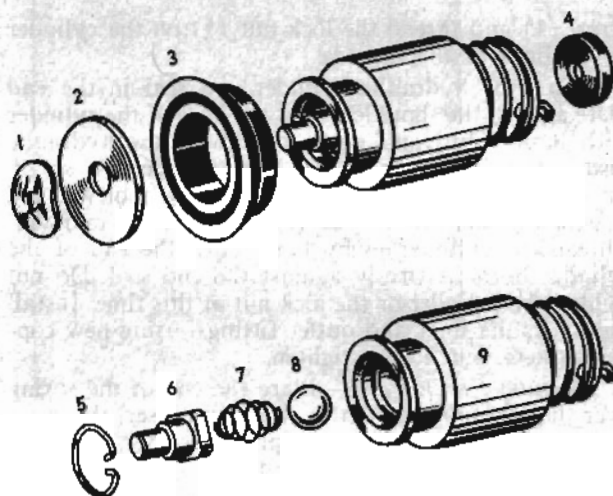
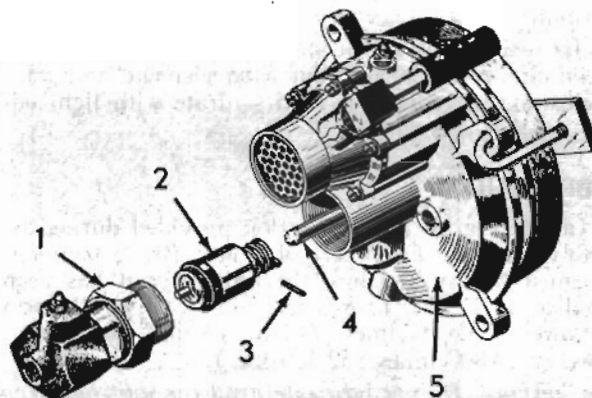

FIG. 43
FIG. 44
**Hydraulic Piston**—Wash the hydraulic cylinder piston parts in alcohol. Place the check valve ball (8, Fig. 43) on the seat in the end of the piston. Insert the spring (7), spring retainer (6), and snap ring (5). Dip the hydraulic piston cup (3) in brake fluid, then install it on the piston (9). The lip of the cup must point toward the check valve end of the piston. Install the deflector washer (2) and speed nut (1). Install the rubber cushion (4) in the opposite end of the piston with concave side of the cushion facing out. Attach the hydraulic piston assembly (2, Fig. 44) to the push rod (4) with the retainer pin (3). Slide the retaining spring over the hole in the piston to hold the retainer pin in place.